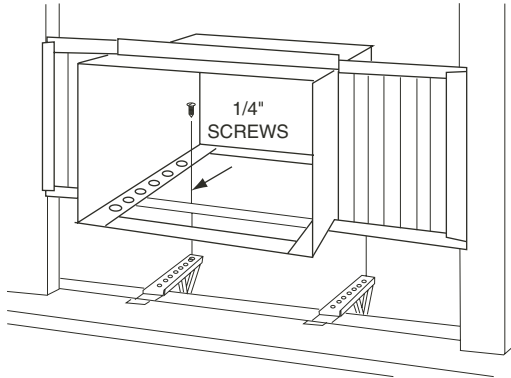

FIGURE 15 — CABINET INSTALLATION
16. Secure the cabinet to the brackets using three $\frac{1}{4}$ -in. screws (provided) for each bracket. Check to make sure cabinet is angled slightly downward. Adjust leveling screws if necessary. See Fig. 15.